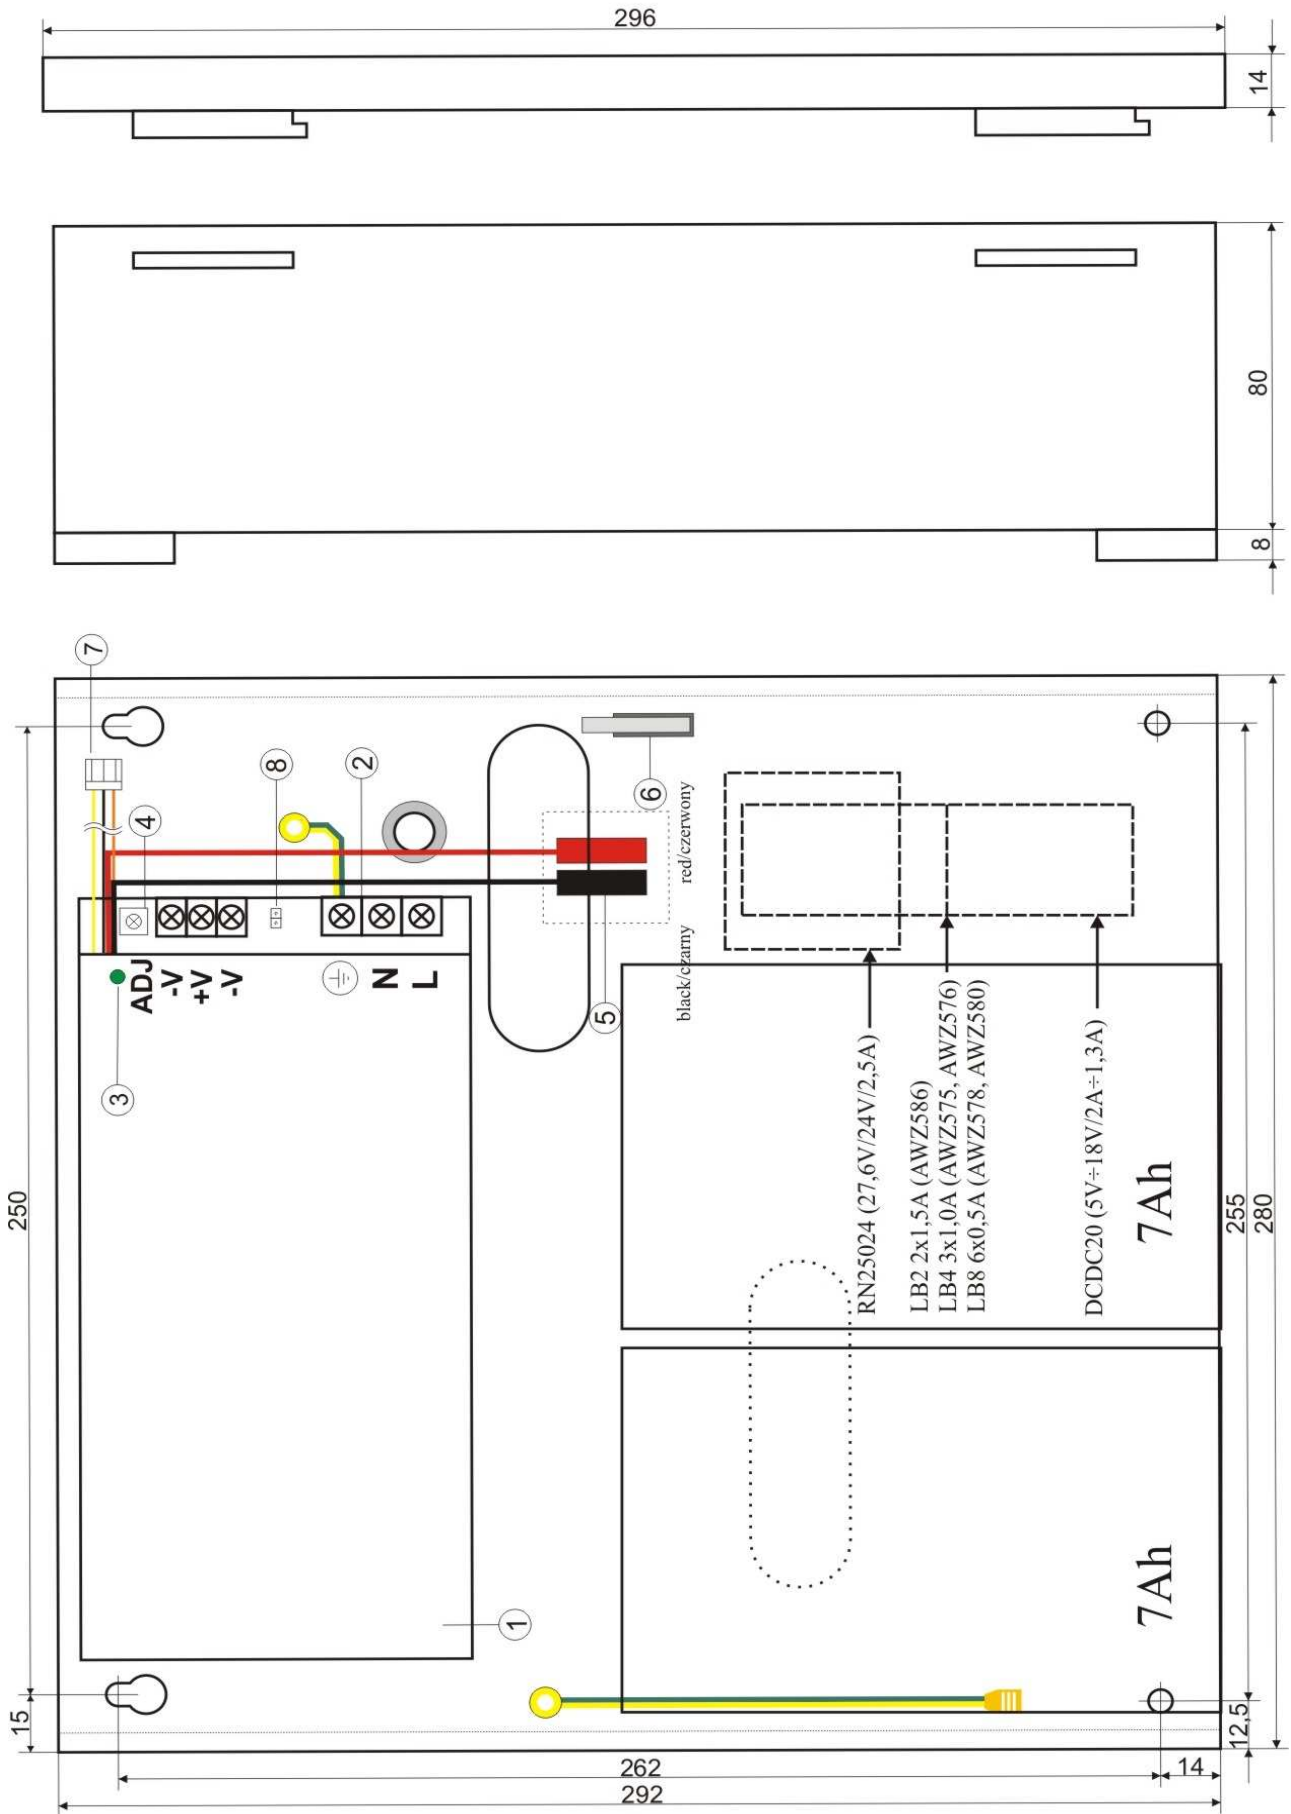

Fig.2. The view of the PSU.
1.3 Description of PSU components and connectors ( tab.1, tab.2, fig.2).
Element no. [Fig. 2]	Description
Element [Fig. 2]	Description
Fixation	See figure 2